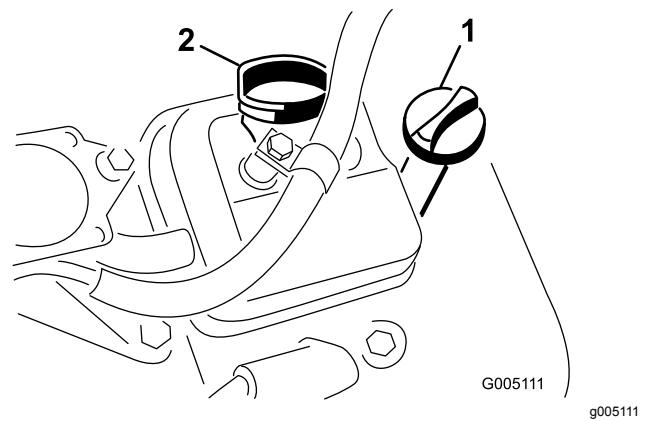

Figure 32
3. Insert the dipstick into the dipstick tube and thread it into the tube (Figure 32).